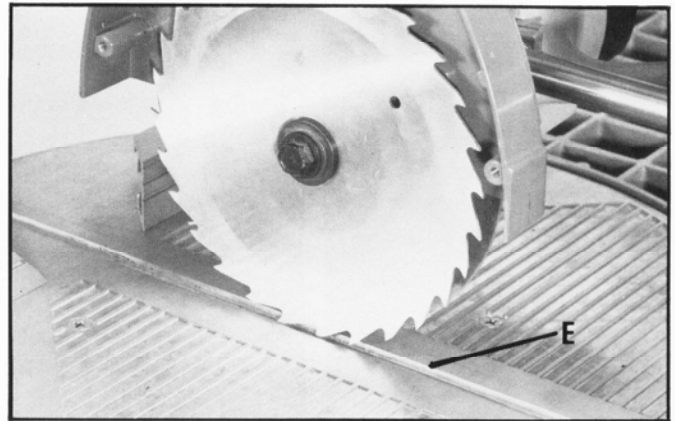

Fig. 42
The bottom of the saw blade must be in the slot (E) and below the surface of the center disc of the table, as shown in Fig. 42, to ensure that the blade cuts completely through the wood. The blade, however, must not come into contact with the bottom of the slot (E) Fig. 42.